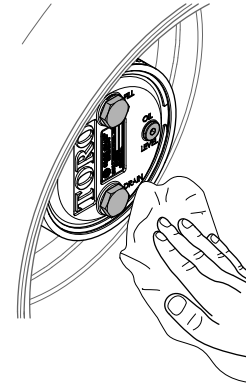

Figure 142
- Wipe clean the planetary and brake housings (Figure 142).